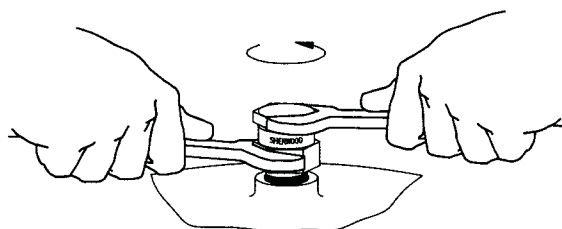

Figure 2
1. Loosen the cap of the Checkmate using two wrenches; one to prevent the Checkmate™ from turning while the other loosens the cap by turning counterclockwise as shown in Figure 2. **Do not loosen the cap fully.** A bleed hole in the cap allows for a small accumulation of liquid and gas to escape.